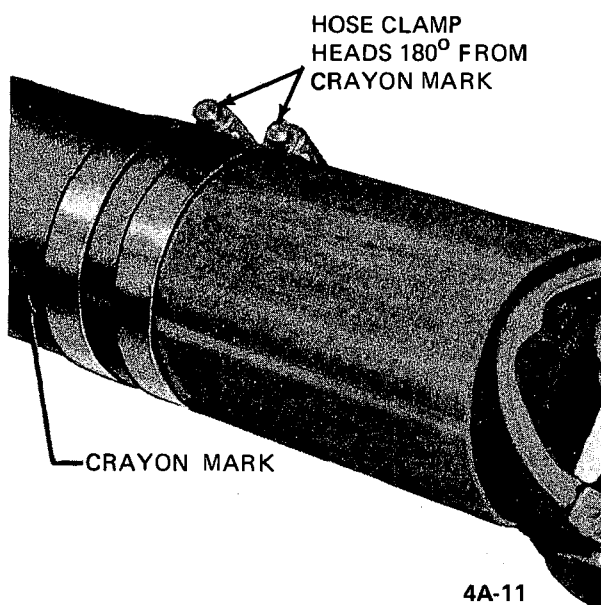

Figure 4A-14 - Balance Hose Clamps in Place
2. Mark and number propeller shaft at four (4) points 90 degrees apart at rear of shaft just forward of balance weight.
3. Install two (2) Wittek type hose clamps on the rear propeller shaft and slide them rearward until the clamps stop at the nearest balance weight welded to the tube. Align both clamps to any one of the four marks made on shaft in Step 2. Tighten the clamps. See Figure 4A-14. Be sure sufficient clearance is maintained so that clamp heads do not contact floor pan of car when axle is in contact with rebound bumper in frame. In order to gain sufficient clearance, it may be necessary to position the clamps over the balance weights.